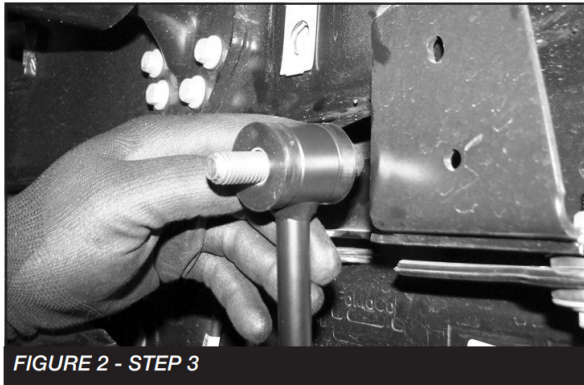
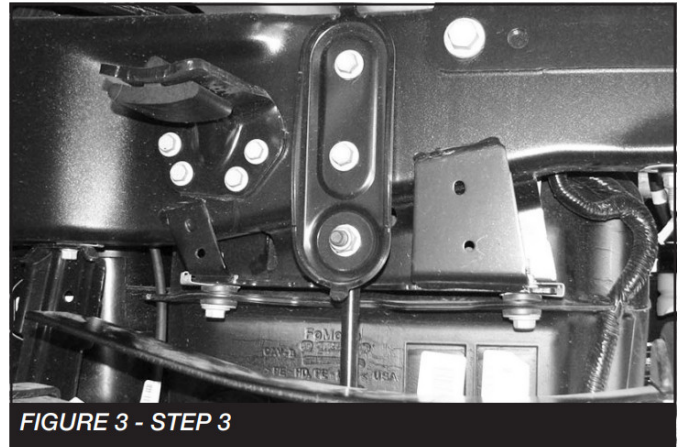

FIGURE 2 - STEP 3
FIGURE 3 - STEP 3
3. Install the FT1004 (Bushings) and FT50089 (Sleeves) into both FT30784 (End Links). Install the new end links to the factory brackets using the supplied 1/2" X 2-1/2" hardware. **NOTE: Install the bolt from the back side. SEE FIGURE 2** Install the brackets/Tie rods to the frame and sway bar using the factory hardware for the frame mount and the supplied 1/2 X 2-1/2" hardware at the sway bar location. Torque to 127 ft-lbs. SEE FIGURE 3